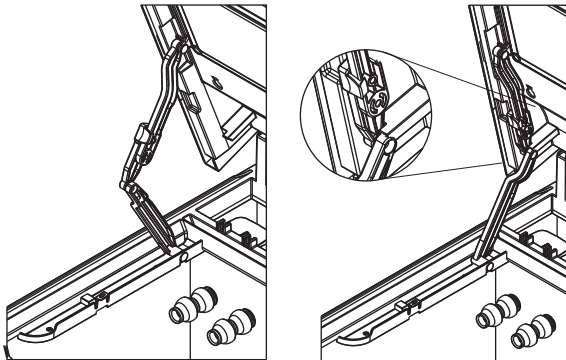

Figure 24: opening the hood to upright position
17. One side at a time, push the junction of the lower and middle legs as shown in Fig. 24 and allow the hood to close slightly until it rests firmly on the supports.